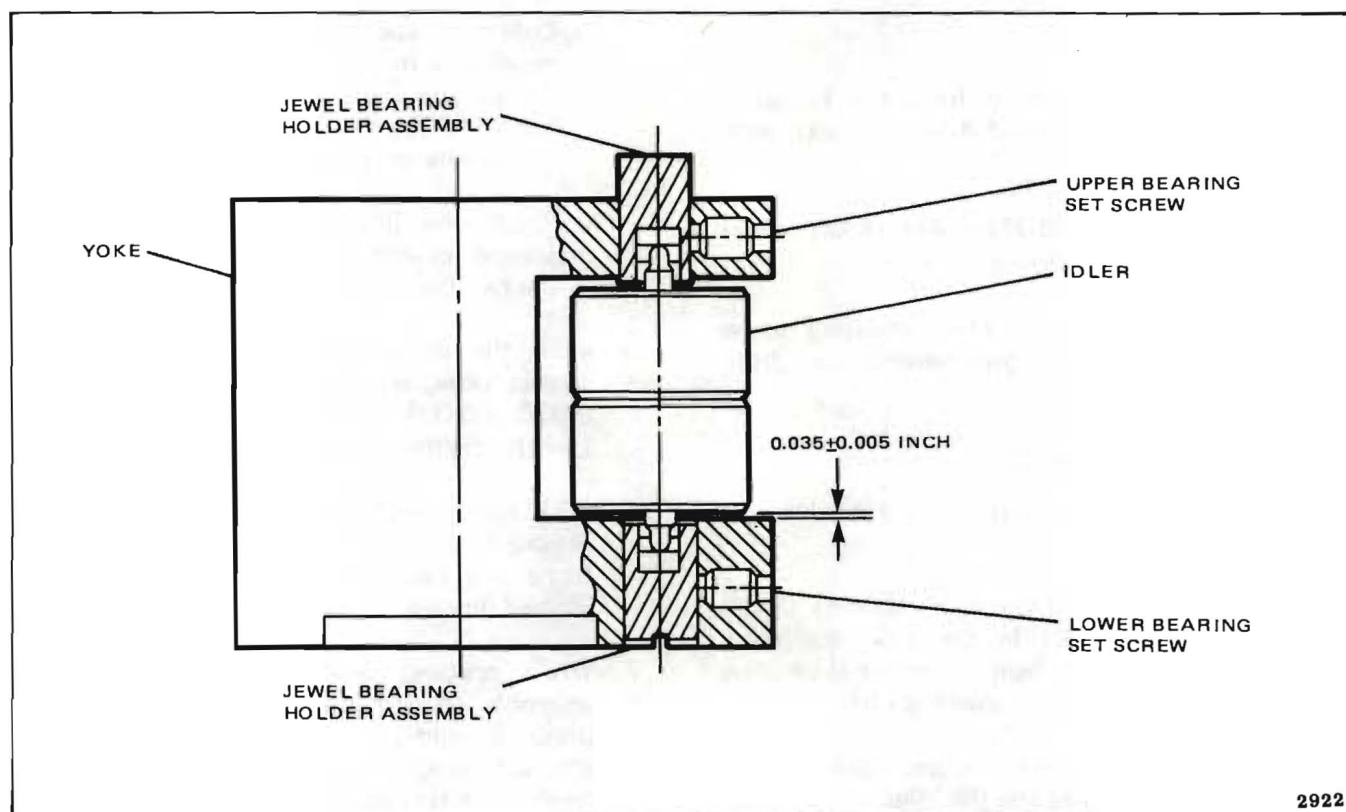

Figure 5-2. Scrape Flutter Idler, Side Cross-Section View
4. Loosen the two Allen-head bearing clamp screws (Figure 5-2) in the yoke assembly. Slide the two jewel bearing holder assemblies out of the yoke and remove the idler.
5. With the upper and lower bearing clamp screws loose, set idler height (Figure 5-2) to 0.035 ± 0.005 inch above the yoke base. Lightly tighten lower bearing clamp screw.